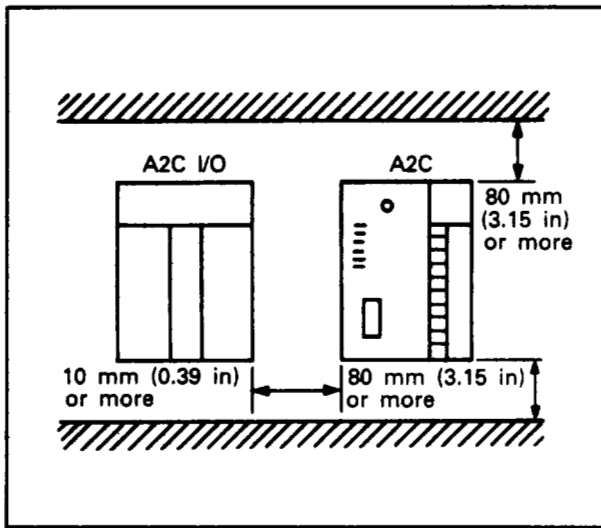
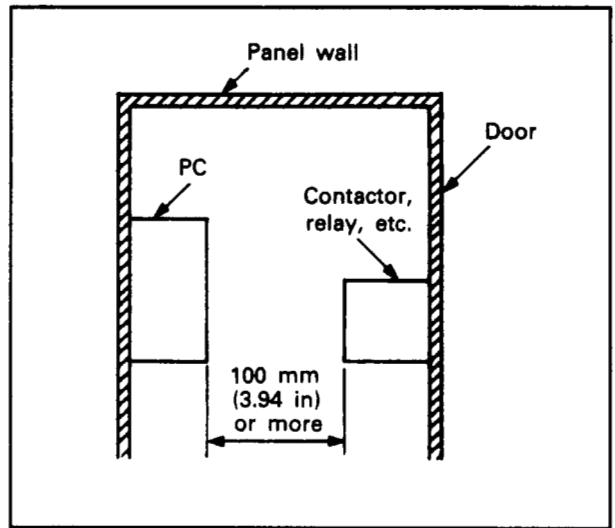

Fig. 6.1 Installing Position
Fig. 6.2 Clearance between PC and Other Devices
- (1) To provide good ventilation and to make module replacement easy, allow a clearance of 80 mm (3.11 in) or more between the top side of the module and surrounding structures or parts. (See Fig. 6.1.)
- (2) If the A2C I/O module, A66PC or other module is to be installed on the left side of the A2C, provide a clearance of 10 mm (0.39 in) or more between them to allow Cover 1 (CPU cover: See 4.8.2.) to be opened and closed.
- (3) Mount the module on a separate panel or away from large electromagnetic contactors and no-fuse circuit breakers which produce vibrations.
- (4) To avoid influence of radiation of noise or heat, allow a clearance of 100 mm (3.94 in) or more if the A2C faces such noise or heat radiating devices (when such devices are mounted on the back side of the door). (See Fig. 6.2.) Also, allow a clearance of 50 mm (1.97 in) or more between the side face of the A2C, A2C I/O or other modules and devices.